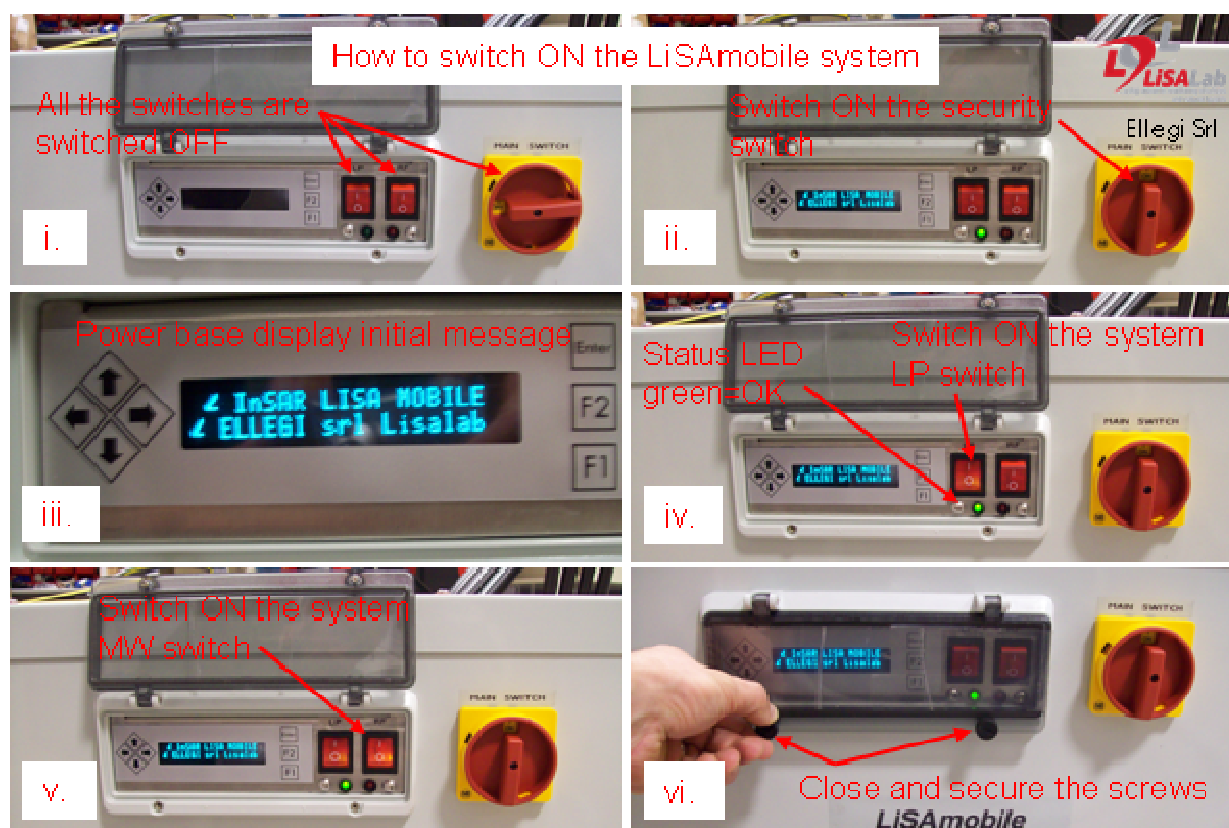

Figure 14: Steps 10 and 11 of the installation procedure.
10. Switch to the "On" position the security switch of the power base; the system will switch on and the message "InSAR LISA MOBILE ELLEGI srl lisalab" appears on the power base display (Figure 14).
11. Lift the protective screen of the power base display and switch on the two red switches on the "I" position; firstly the "LP" switch and then the "MW" switch (Figure 14). Then close the display protective screen and secure it with the two fixing screws.